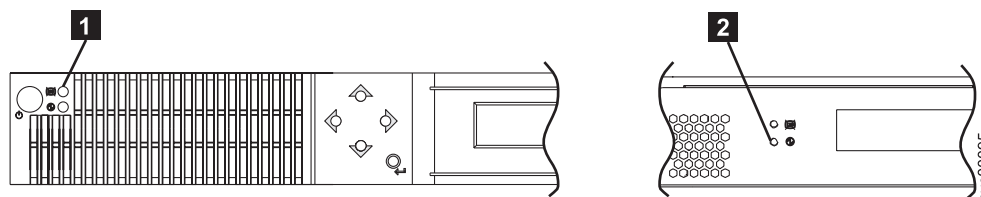

Figure 85. SAN Volume Controller service controller check or error light
**Is the service controller check indicator that you see in Figure 85 illuminated and showing a solid amber?**